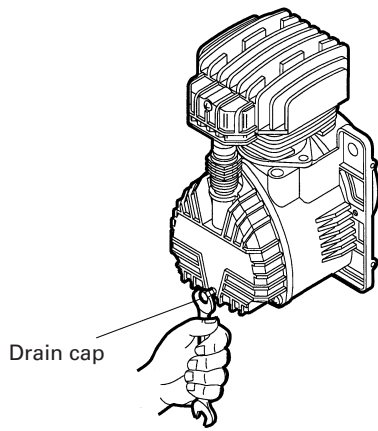

Fig. 8
- (1) Within the first 50 hours of operation, completely replace the oil of the pumping element. Unfasten the oil drain cap on the casing cover, drain all the oil, and screw the cap back on (Refer to Fig. 8).